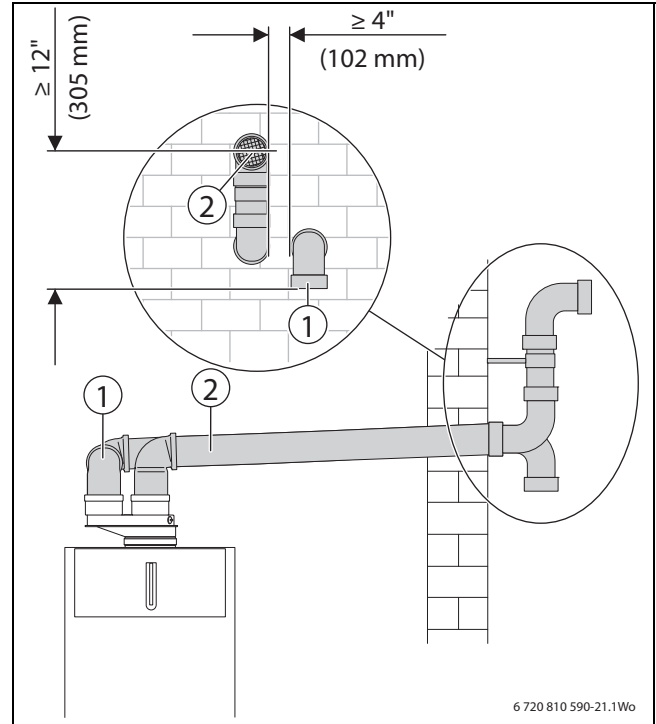

Fig. 34 Horizontal venting system (sealed combustion)
**Key to fig. 34 and fig. 35:**